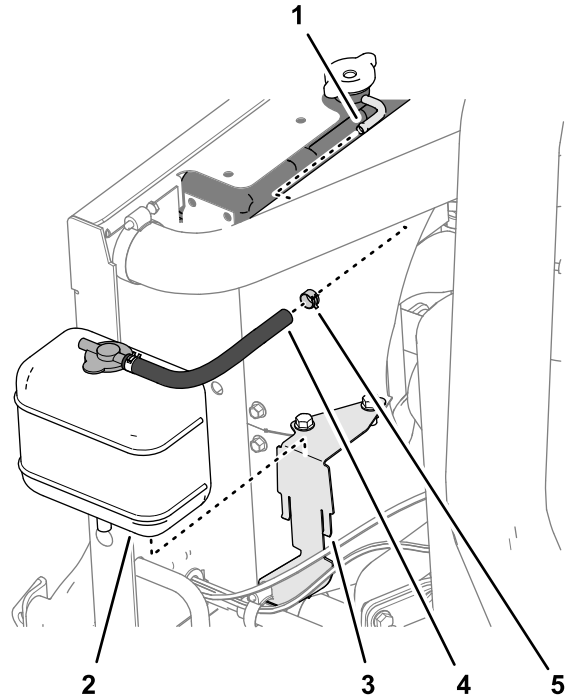

Figure 8
1. Remove the hose clamp that secures the hose to the radiator overflow fitting, and remove the hose from the fitting (Figure 8).
2. Lift the reservoir from the reservoir bracket and remove the reservoir from the machine (Figure 8).